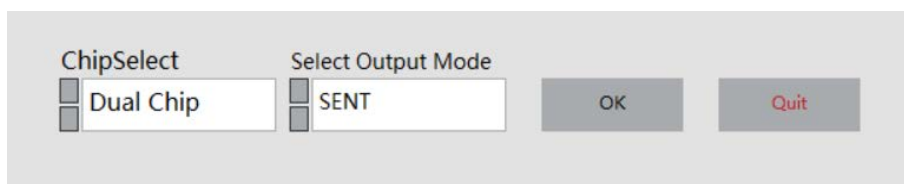
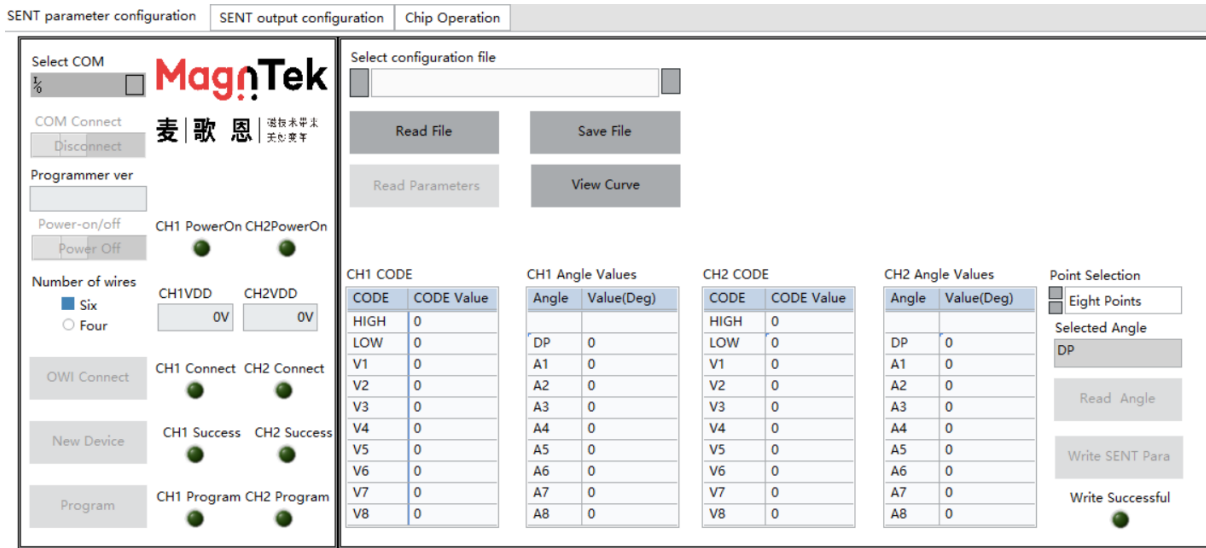

Figure 5.6.1 Chip mode selection
Figure 5.6.2 Dual chip SENT parameter configuration
- 3、 Double click on the "PB600-MT6521GUI. exe" file, open the software, and a chip mode selection interface will pop up (Figure 5.6.1). After selecting the "Dual" and "SENT" parameters, click "OK" to enter the programming interface for this mode (Figure 5.6.2).